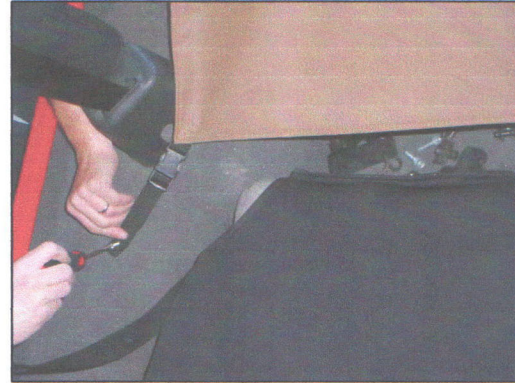

Figure 27
17. Re-position Rear Seat Tonneau Cover and attach both sides to the just drilled holes by using the included (2) - #8 x 1" Sheet Metal Screws (Figure 27)